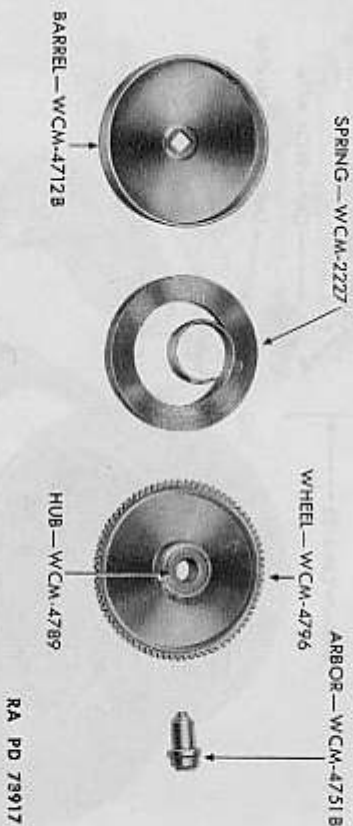

Figure 110 — Waltham Pocket Watch — Mainspring Barrel Assembly Disassembled
- a. Remove Mainspring From Barrel (fig. 110). To disassemble the mainspring barrel assembly, remove the arbor; turn main wheel clockwise to release the hub from mainspring and lift off. Grasp inside coil of mainspring with tweezers and slowly let it uncoil as it comes out of the barrel. Refrain from handling mainspring with bare fingers as much as possible.